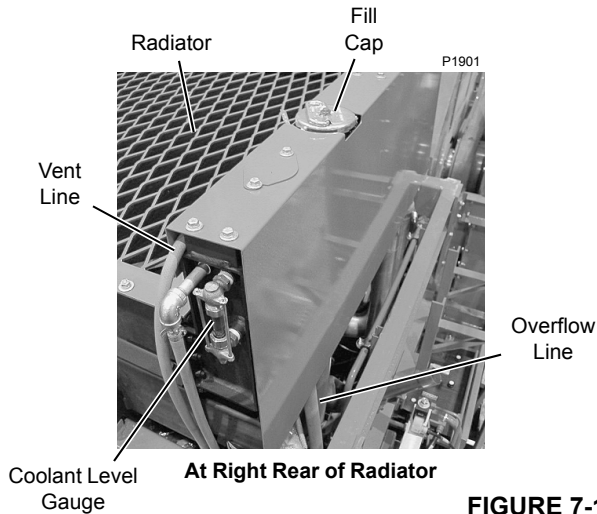

FIGURE 7-17
Check coolant level when cold (see Figure 7-17):
4. Remove radiator surge tank fill cap (Figure 7-17).